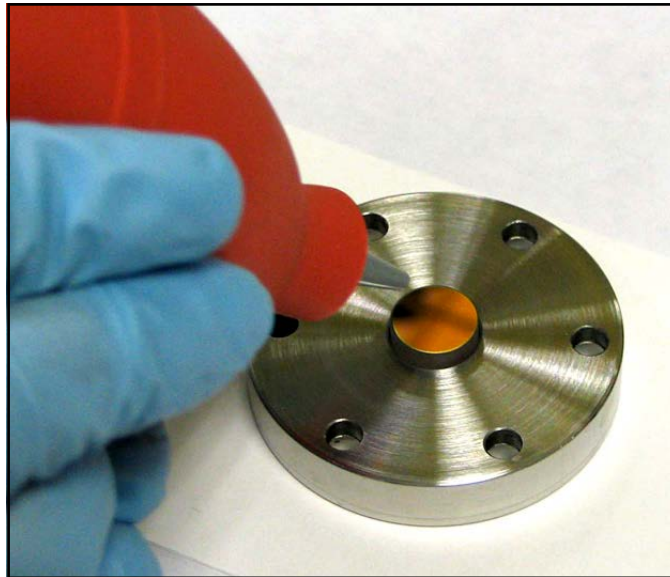

Figure 91: Drying the Mirror
6. Use the air blower to blow dry air onto the surface of the mirror. Puff repeatedly until the mirror surface appears dry (see *Figure 91* below).
8. Use the air blower to blow dry air onto the surface of the mirror while holding it with the tweezers. Puff repeatedly until the mirror surface appears dry (see *Figure 91* on page 107).